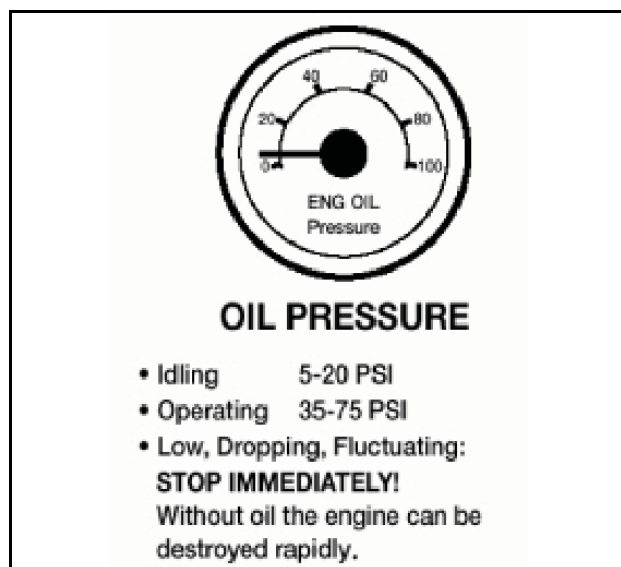

Figure 2.5
- Oil pressure should come up to normal within seconds after engine is started. See Figure 2.5